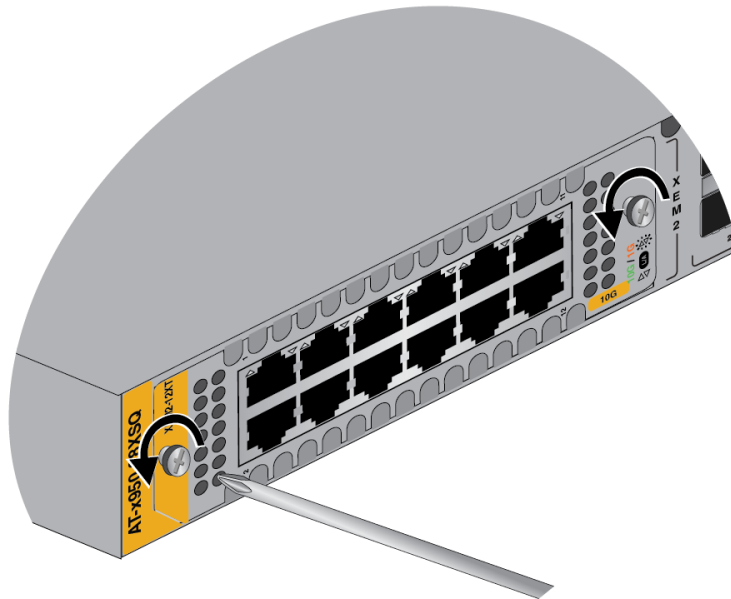

Figure 135. Loosening the Screws on the Ethernet Line Card
4. Use a #2 Phillips-head screwdriver to loosen the two screws on the faceplate of the card. Refer to Figure 135.